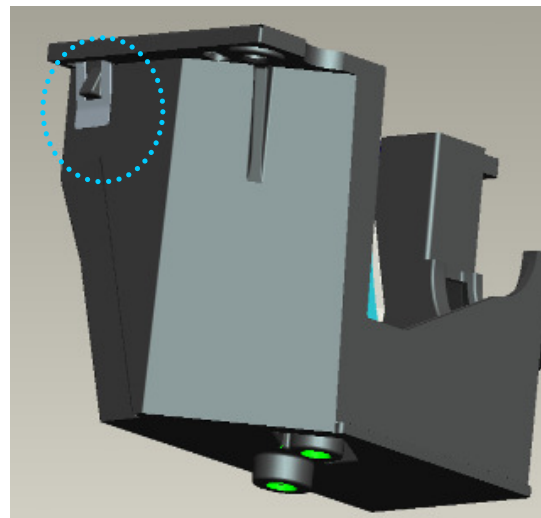

Fig. 3-5
- V. To check and make sure “CLIP of CM” hooks the HSG ILL very Well (Fig. 3-5).